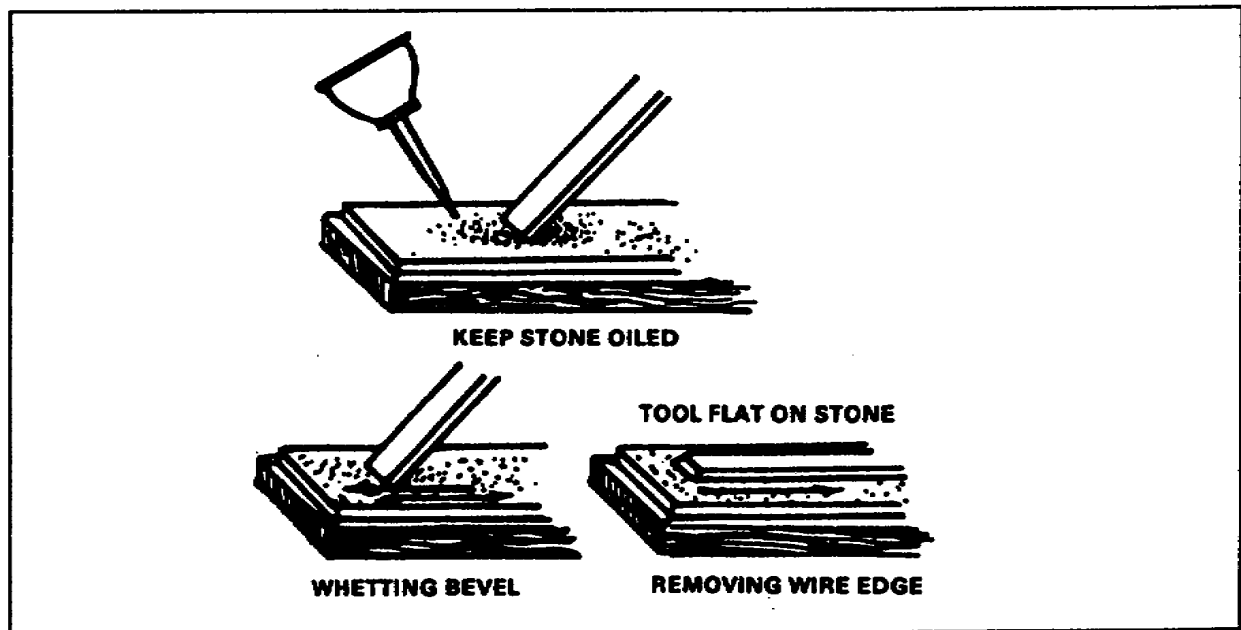

Figure 2-50. Oilstone
b. Oilstones. Oilstones are used after the grinding operation to give a tool the keen, sharp edge required for smooth cutting (Figure 2-50).